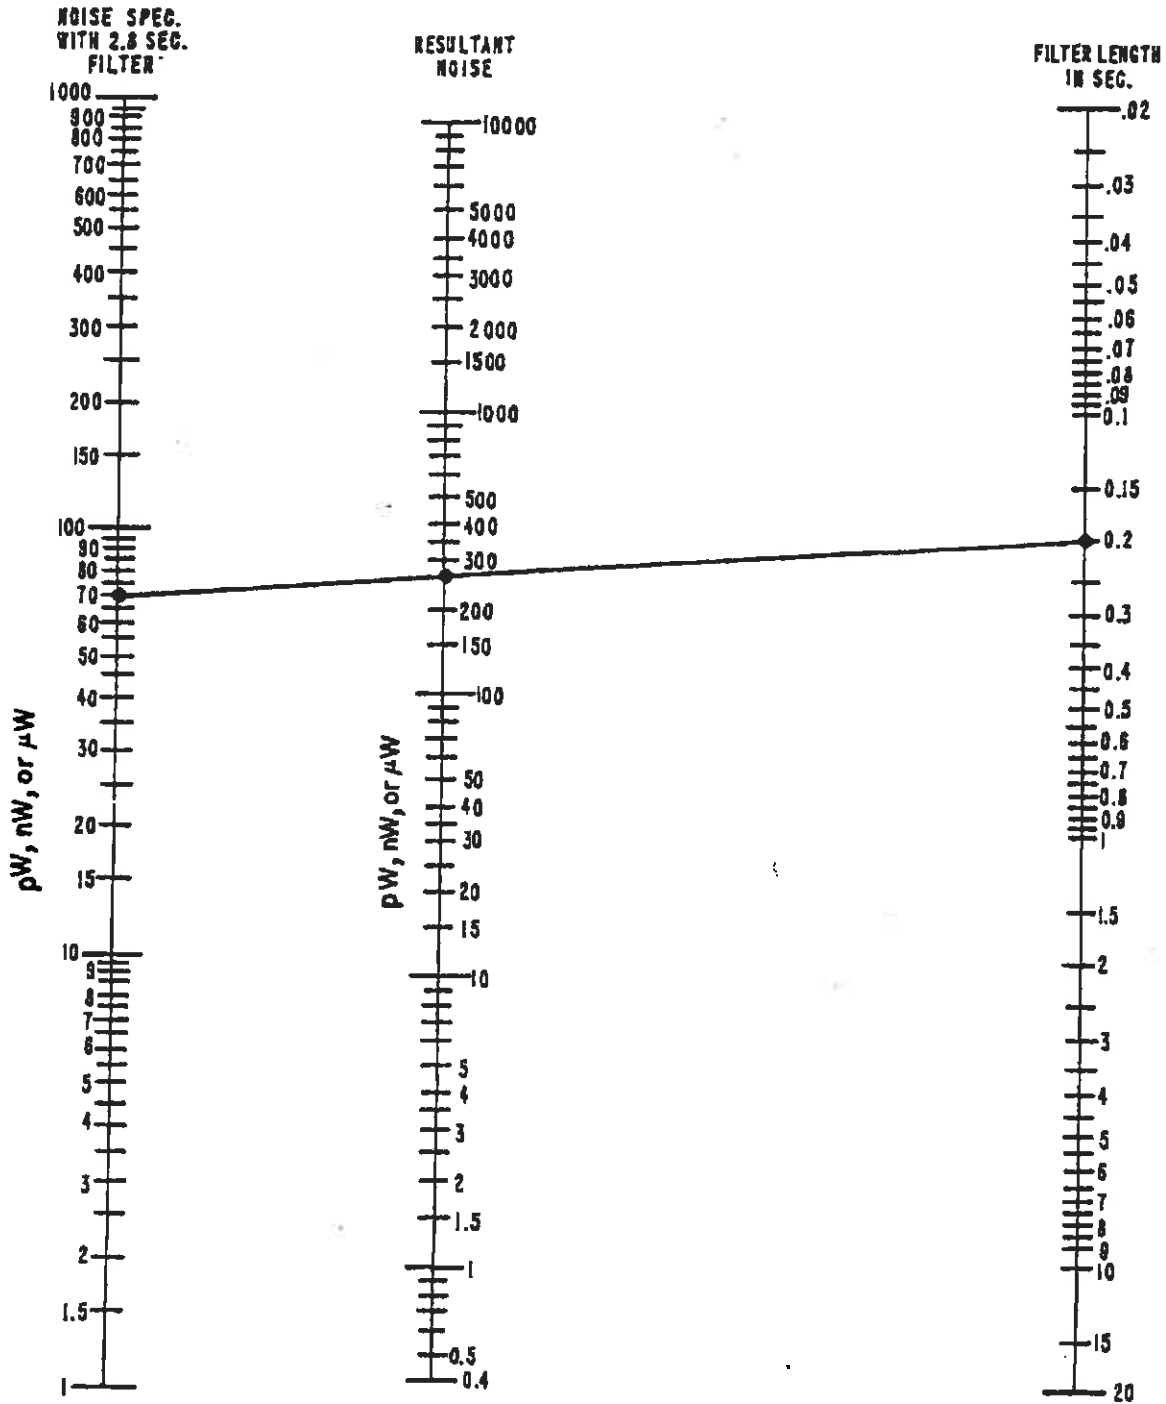

Figure 4-5 Noise Reduction
- 4-24 Figure 4-5 is a nomograph showing the noise reduction that applies for various filter lengths, given the head noise with 2.8 seconds filtering. (This is the time for which diode head noise is specified.) Noise power is inversely proportional to the square root of the filter length. Normally, noise power varies directly with filter bandwidth; however, because power heads are square-law devices (detected voltage is proportional to power), the noise power is proportional to the square root of the bandwidth. This can be demonstrated with noise measurements. At very low filter lengths (less than 150 milliseconds), however, the noise does not increase without bound for all heads because the input amplifier noise is restricted with hardware filters. This additional filtering is not shown in the nomograph.